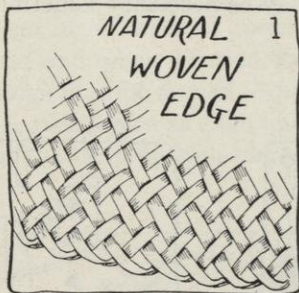

FIG. 1.
- c. Plan how the edge of a straw hat is to be finished. Choose *either* Section (1), (2), (3), or (4), and follow only the sections indicated. Make a list of the sections and show the list to your teacher to be certain you have planned correctly.
- (1) If the natural woven edge is to be used, follow Sections 3, 5, and 6 *a* and *e* (pages 56, 57, and 58). (See Figure 1.)